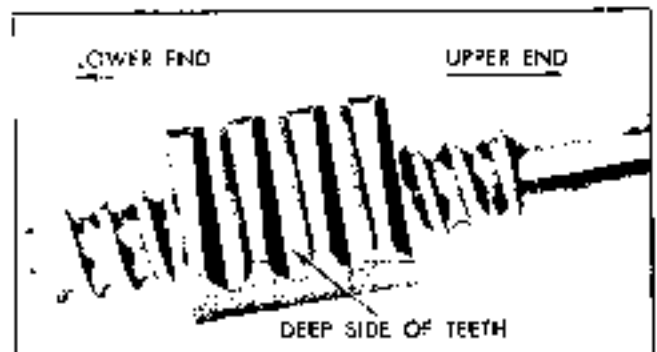

Fig. 9-43 Ball Nut Properly Installed on Shaft
1. Position ball nut on shaft so that deep side of teeth are located as shown in Fig. 9-43.